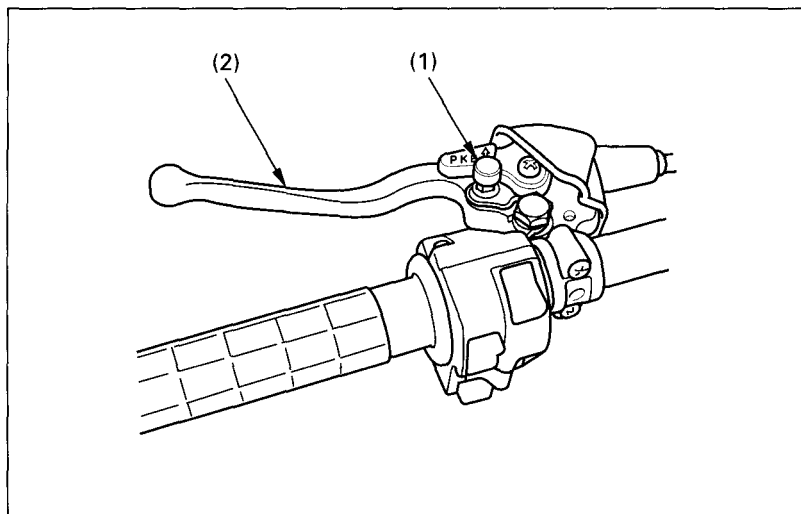

Fig. 2-22 (1) Reverse selector knob (2) Rear brake lever
The reverse selector knob (Fig. 2-22) (1) is on the rear brake lever.